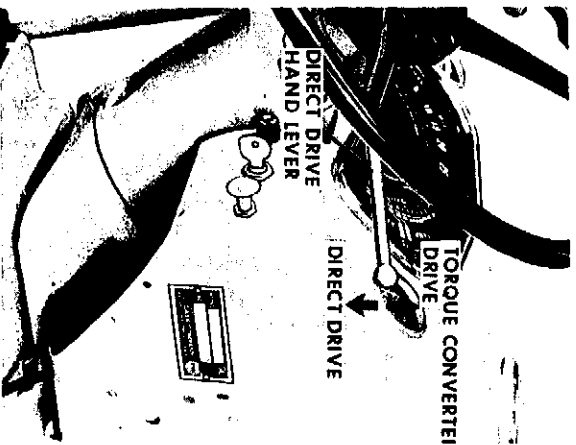

Figure 36
2. Pushing Direct Drive Lever - Upward - if the tractor has been operating in direct drive and the operator wishes to pull through a "tough spot" or up a steep grade, he can return to Torque Converter Drive by simply pushing the direct drive hand lever upward Figure 36.